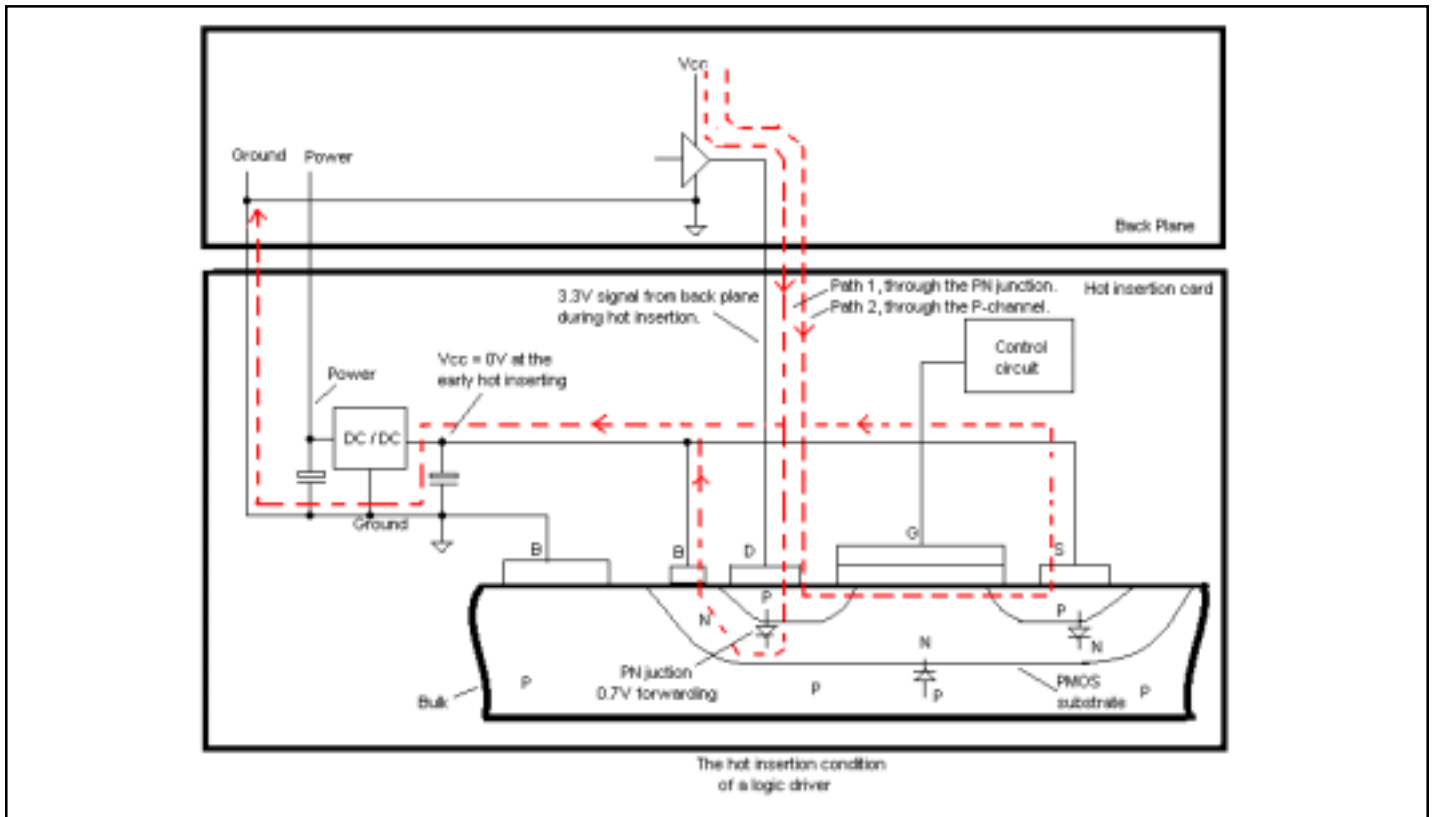
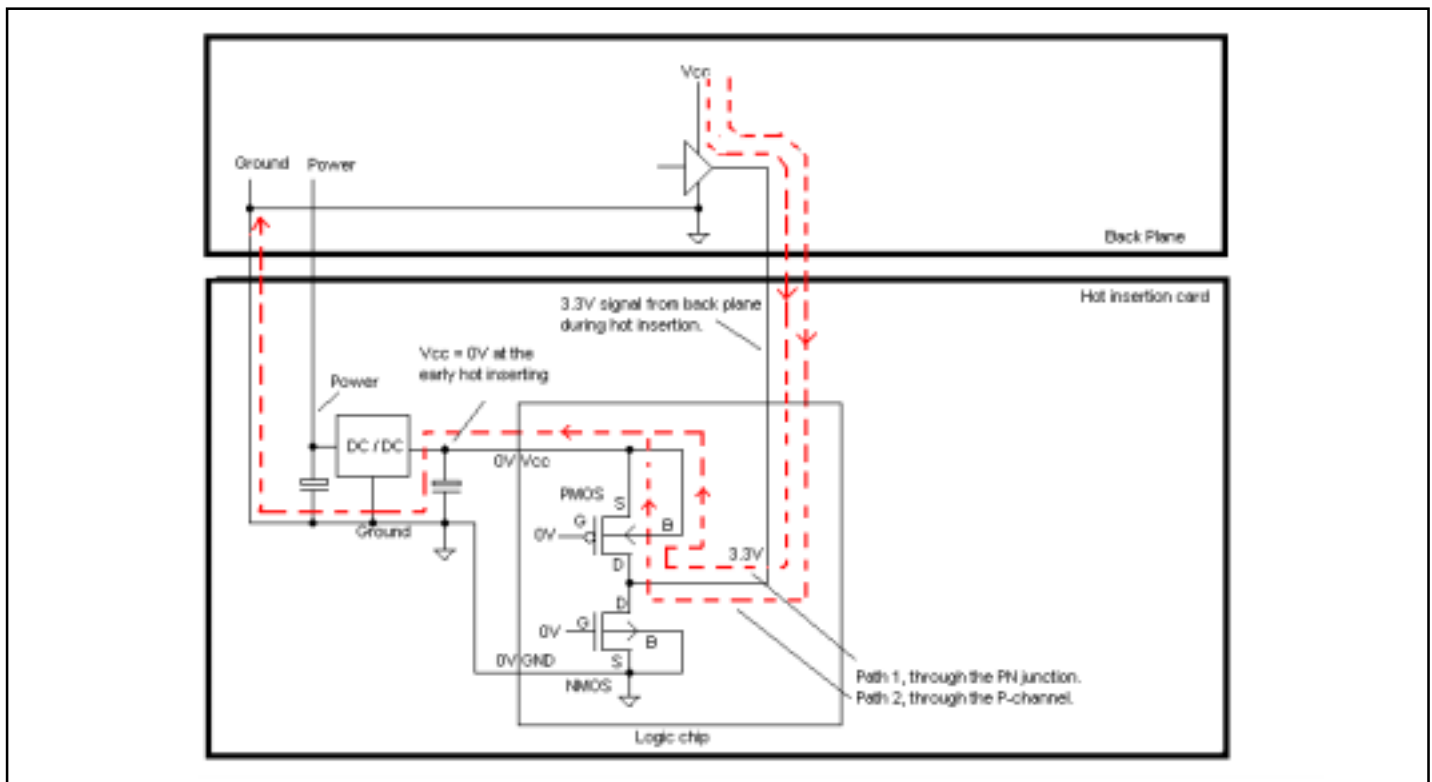

Figure 1. The hot insertion condition at transistor structure level
Figure 2. The hot insertion condition for a CMOS driver
During hot insertion, the system and circuit condition is as follows (see Figures 1, 2, 3 on next pages)
- Path One: The 3.3V signal from the backplane will be forwarded to the ground through the PN junction (0.7V), the bulk terminal B, the V_{CC} pin of the chip (0V), and the bypass capacitor. See Figure 1 for the example of CMOS driver.
- Path Two: When the signal from the backplane is 1.1V higher than the 0V at gate and source, the signal voltage is higher than the 1.1V threshold of the PMOS, thereby will turn the P-channel on. See Figure 1 for the example of CMOS driver.
Figure 1 shows the hot insertion condition at transistor structure level. Figure 2 and 3 show the hot insertion condition for logic driver and CMOS switch at device level.